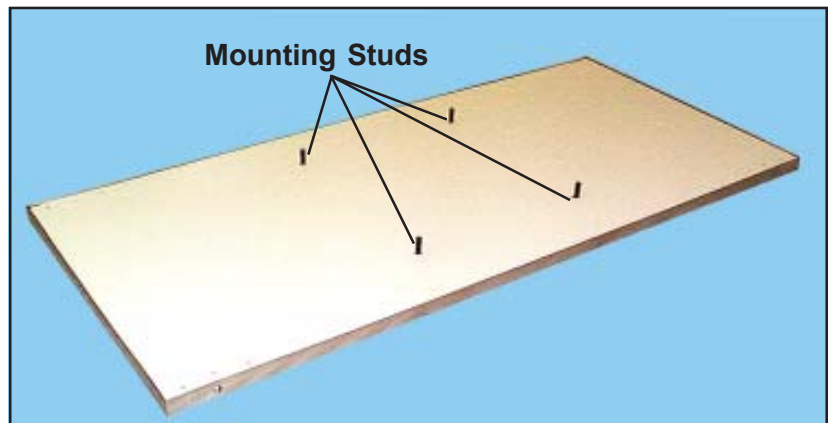

Figure 52. Underside of Exam Top Showing Studs
1. With a 1/2-in. wrench, remove the four nuts and washers from the mounting studs under the table top (Figure 52).
1. Place the table top on the unit so that the mounting studs under the top enter the matching holes on the unit frame (Figures 52, 53, and 54).